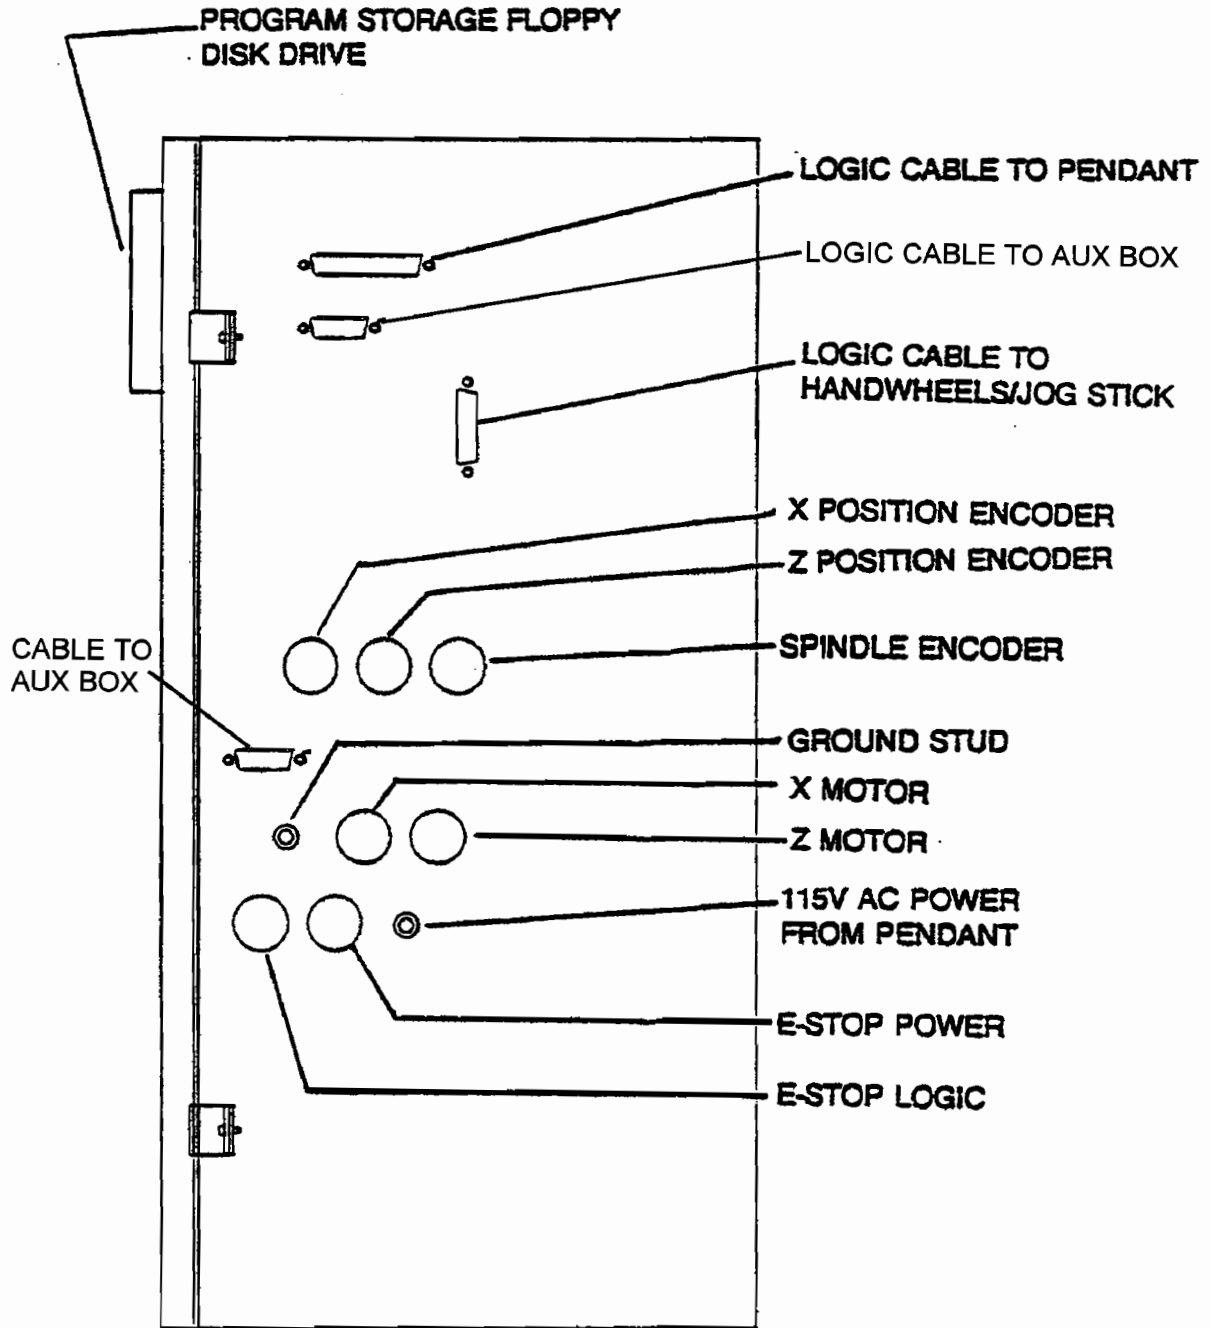

Figure 4
3.6 LX3 Computer Cabinet (Figure 4)
The computer cabinet, located inside the main electrical cabinet, contains the ProtoTRAK LX3 computer systems. See Figure 4 for a description of each connector.